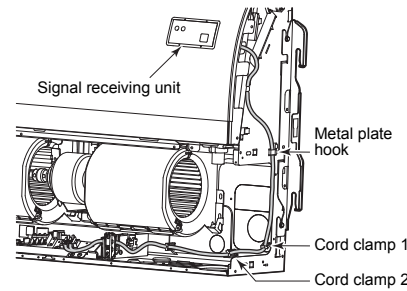

Fig.4
6. The lead wire from signal receiving unit is fixed by the cord clamp 1, 2 as shown in figure. (Fig. 4)